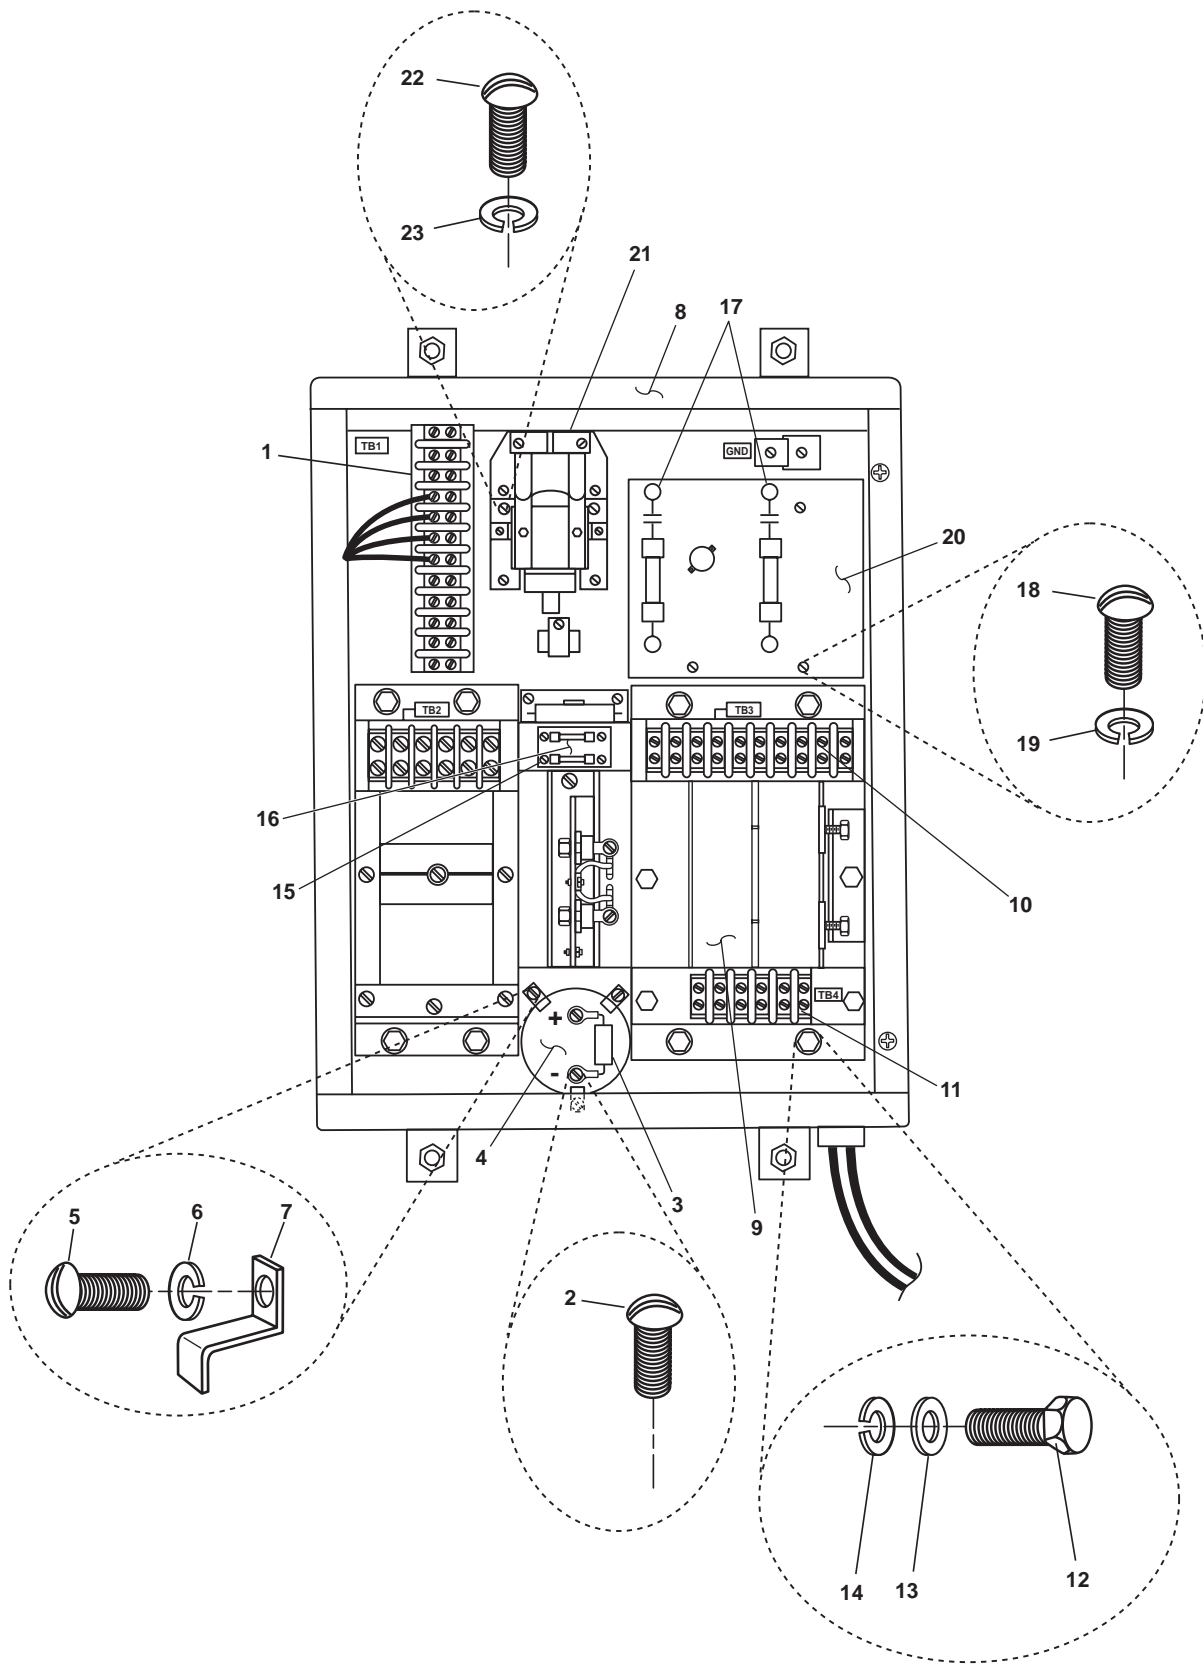

Figure 3. Searchlight Power Supply Internal Components
3. Use a multimeter to check for voltage at the terminal block 1 (figure 3, item 1). If voltage is present, ensure that the proper circuit breaker is secured, locked out, and tagged out (FM 55-502). If no voltage is present, continue with the procedure.
4. Remove the two screws (figure 3, item 2) from the resistor assembly (figure 3, item 3).
5. Remove the resistor assembly (figure 3, item 3) from the capacitor (figure 3, item 4).
1. Install the resistor assembly (figure 3, item 3) on the capacitor (figure 3, item 4).
2. Install the two screws (figure 3, item 2) in the resistor assembly (figure 3, item 3).
2. Label and remove the wiring from the capacitor (figure 3, item 4).
3. Remove the three screws (figure 3, item 5), three lockwashers (figure 3, item 6) and three clamps (figure 3, item 7) from the capacitor (figure 3, item 4). Discard the lockwashers.
4. Remove the capacitor (figure 3, item 4) from the power supply (figure 3, item 8).
1. Install the capacitor (figure 3, item 4) in the power supply (figure 3, item 8).
2. Install the three clamps (figure 3, item 7), three new lockwashers (figure 3, item 6), and three screws (figure 3, item 5) on the capacitor (figure 3, item 4).
3. Connect the wiring to the capacitor (figure 3, item 4) using the labels from step 2 of Removal as a guide. Remove the labels.
3. Use a multimeter to check for voltage at terminal block 1 (figure 3, item 1). If voltage is present, ensure that the proper circuit breaker is secured, locked out, and tagged out (FM 55-502). If no voltage is present, continue with the procedure.
4. Label and remove the wiring of the transformer assembly (figure 3, item 9) from terminal block 3 (figure 3, item 10) and terminal block 4 (figure 3, item 11).
5. Remove the four cap screws (figure 3, item 12), four flat washers (figure 3, item 13), and four lockwashers (figure 3, item 14) from the transformer assembly (figure 3, item 9). Discard the lockwashers.
6. Remove the transformer assembly (figure 3, item 9) from the power supply (figure 3, item 8).
1. Install the transformer assembly (figure 3, item 9) in the power supply (figure 3, item 8).
2. Install the four cap screws (figure 3, item 12), four flat washers (figure 3, item 13), and four new lockwashers (figure 3, item 14) in the transformer assembly (figure 3, item 9).
3. Connect the wiring of the transformer assembly (figure 3, item 9) to terminal block 3 (figure 3, item 10) and terminal block 4 (figure 3, item 11) using the labels from step 4 of Removal as a guide. Remove the labels.
4. Using a fuse puller, remove the fuse (figure 3, item 15) from the fuse block (figure 3, item 16).
1. Using a fuse puller, install the fuse (figure 3, item 15) in the fuse block (figure 3, item 16).